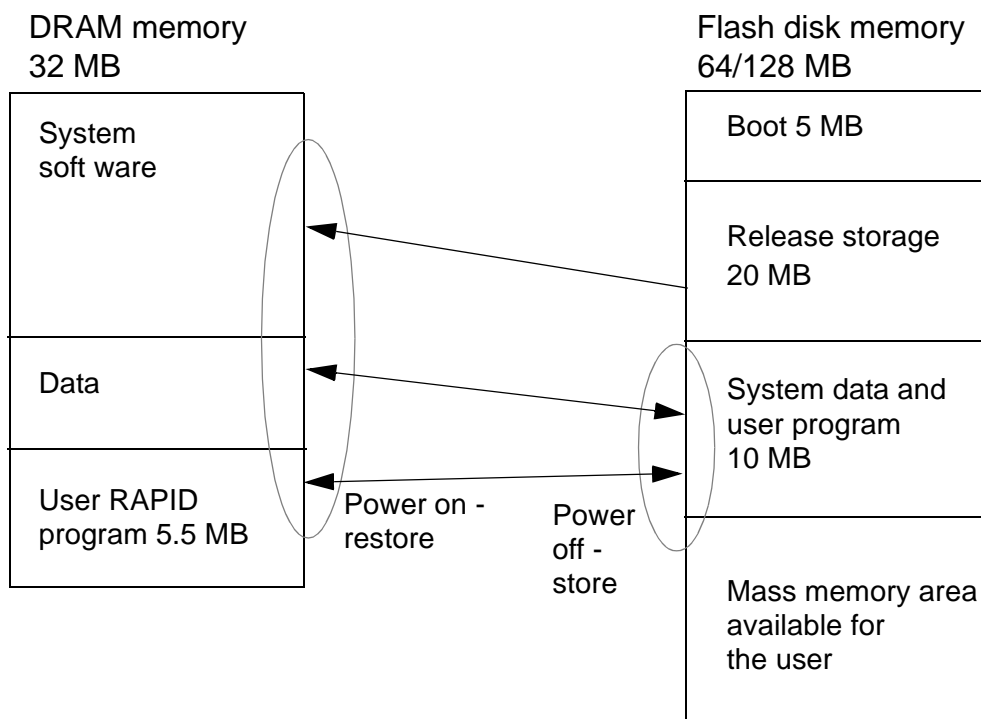

Figure 6 Available memory.
- user RAPID programs, about 5.5 MB, see Figure 6 (when installing different options, the user program memory will decrease, at most with about 0.7 MB).
The flash disk is used for backup, i.e. when a power failure occurs or at power off, all the system specific data including the user program, see Figure 6, will be stored on the flash disk and restored at power on. A backup power system (UPS) ensures the automatic storage function.